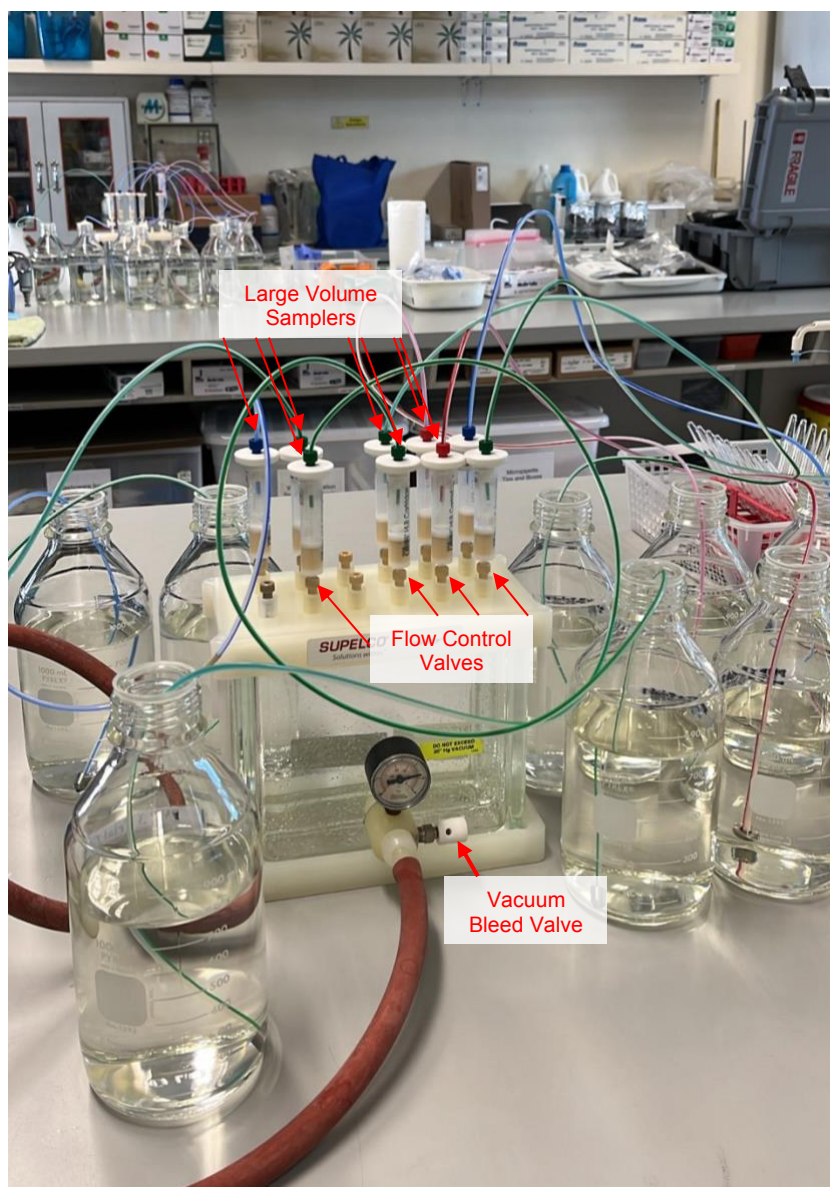

Figure 4. Solid phase extraction of river water samples.
4.2.2.3. Connect the large volume sampler of each sampling bottle to the SPE tubes. An example of solid phase extraction of river water samples is shown in Figure 4.